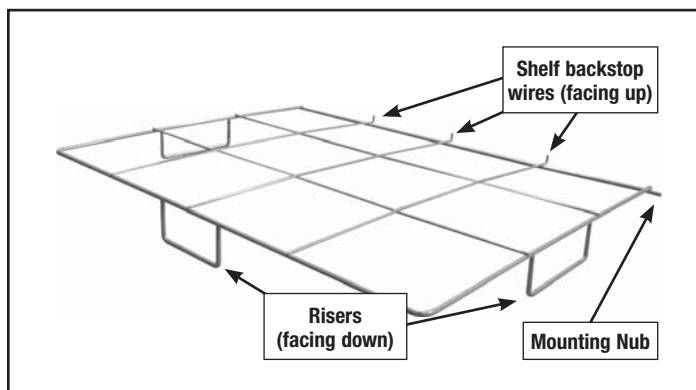

Figure 5. Install bottom shelf with risers facing down.
The bottom and standard Tensor-18™ shelves include two mounting nubs that extend out from the rear of each shelf (Figures 5 & 6, page 5). Each shelf also has backstop wires that must extend upward to keep the material from slipping off the shelf when it is in the open position.
1. Holding the bottom shelf (Figure 5) at an angle with the risers extending downward, slip the mounting nub into the slot on the side of the upright with the welded locking strip (Figure 7). Slip the mounting nub on the other side into its corresponding slot.